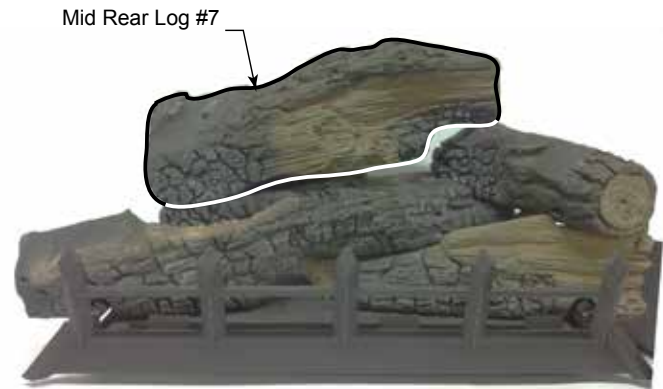

Figure 5
7. Place mid rear log (#7) on bottom rear log (#1) and mid right log (#6) by placing notch on bottom of log onto locating block on log #1. Right side of log will rest on log #6. Figure 5